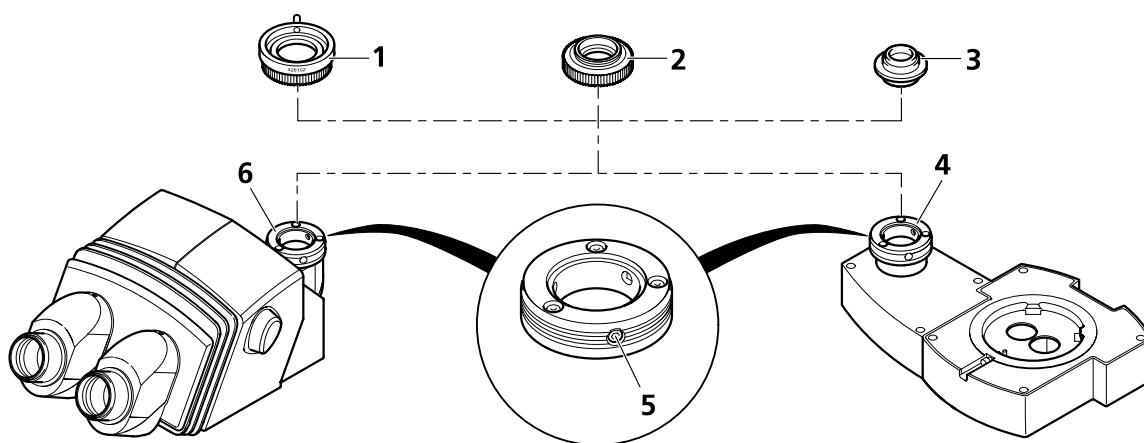

Fig. 18 **Using camera adapters**
- Attach the camera adapter "60N" (Fig. 18/1; 2) to the camera.
Please note: The three grub screws (SW 3) (Fig. 18/5) at the camera port must project neither into the external thread nor into the inner aperture.
- Put the pre-assembled unit onto the camera port (Fig. 18/4 or 6), align it and fasten the sleeve nut of the adapter (Fig. 18/1 or 2) hand-tight.
- Attach the camera adapter "60" (Fig. 18/3) to the camera.
- Put the pre-assembled unit onto the camera port (Fig. 18/4 or 6). Take care that the three grub screws (Fig. 18/5) do not project too far into the inner aperture; unscrew them slightly, if necessary.
- Turn the three grub screws (SW 3) on the tube (Fig. 18/5) counterclockwise until the adapter is firmly seated.